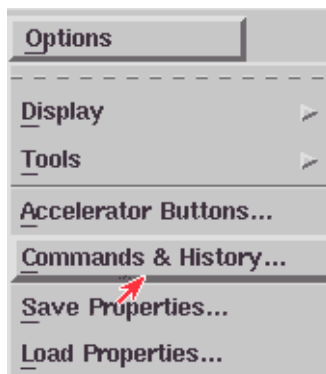

Figure 8-1 Opening the Commands & History dialog box.
2. **Open the Command Line.** Click Options > Commands & History. (See Figure 8-1.) This opens a dialog box called Xepr Command Line.